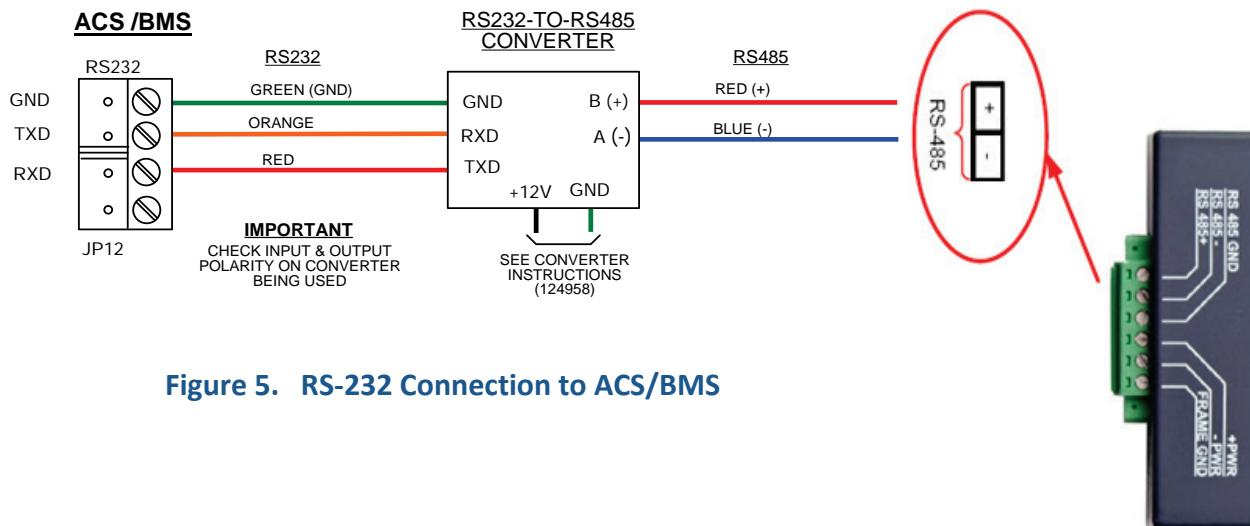
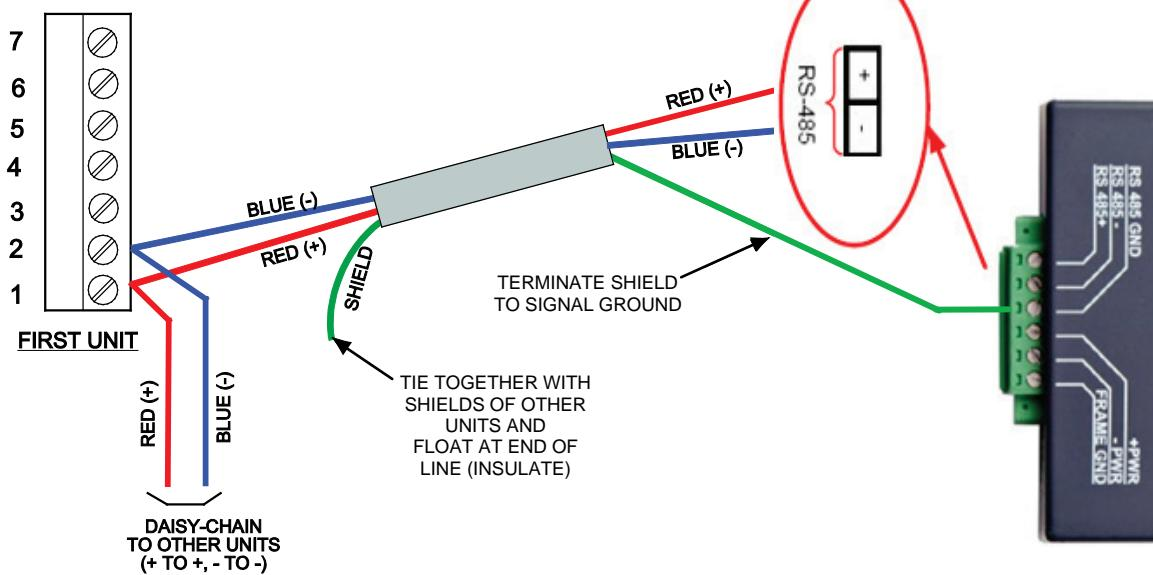

Figure 5. RS-232 Connection to ACS/BMS
Figure 7. RS-485 Connection to BCM
- Refer to Figures 5 and 6 to locate the internal RS-232 connector JP12 (BMS) or JP5 (BMS II/ACS) inside the wiring area of the ACS/BMS II/BMS.
- If a third party converter is used, connect the RS-232 Receive (Rx) and Transmit (Tx) wire leads to the internal RS-232 connector (JP12 or JP5) as shown in Figures 5 and 6. DO NOT connect the wire shield on this side of the converter.
- On the RS-485 side of the converter (Figure 5 to Figure 7), connect the wire leads as follows: